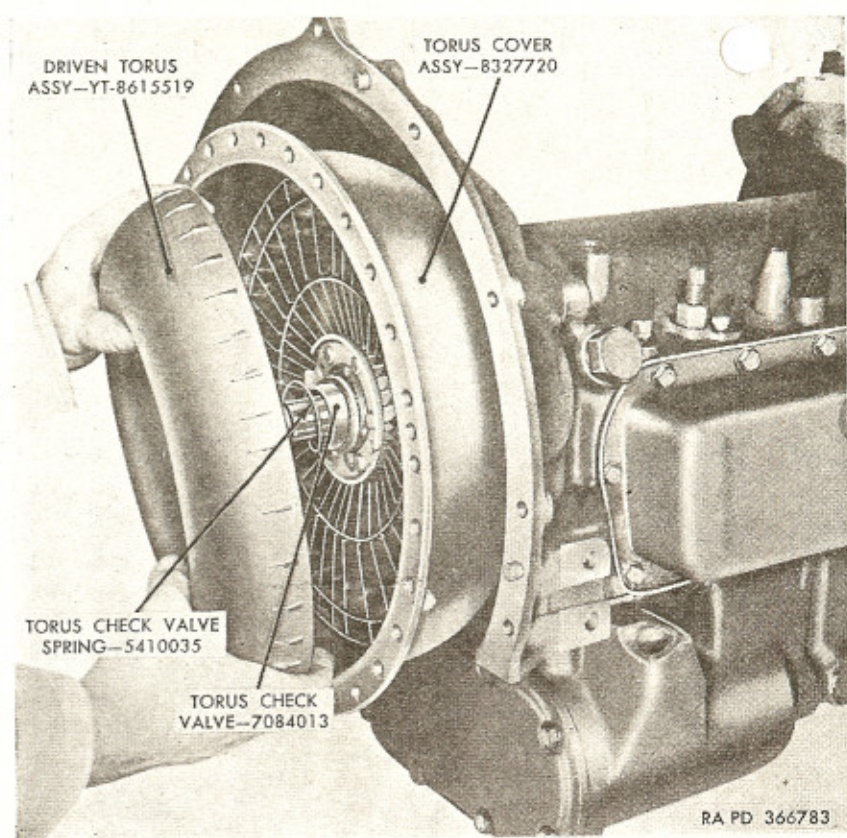
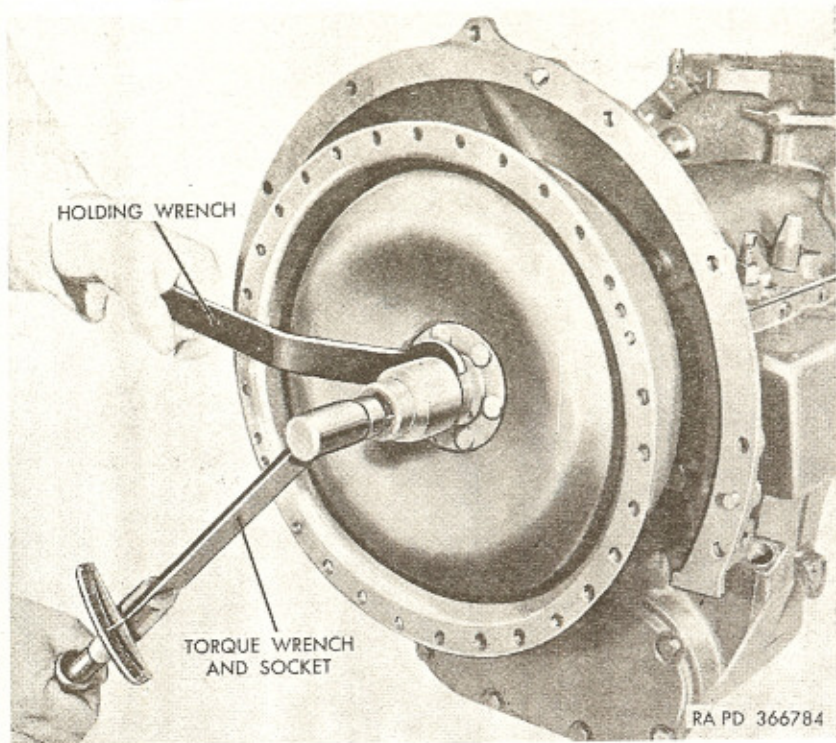

Figure 219. Installing driven torus assembly (303M shown).
Figure 220. Tightening input shaft nut using holding wrench—B7950256.
g. Slide torus check valve (F) over driven torus hub to check freeness; then remove torus check valve.
h. Install torus check valve (F) and check valve spring (E) over transmission input shaft (fig. 219).
i. Start driven torus assembly (D) on input shaft, at the same time guide torus check valve spring (E) over hub of driven torus assembly (fig. 219).
k. Install new input shaft nut lockwasher (C) with ear over flat of driven torus hub.
l. Install $\frac{7}{8}$ -16 nut on input shaft. Tighten nut to 50 to 60 pound-feet torque, using holding wrench—B7950256 (fig. 220).